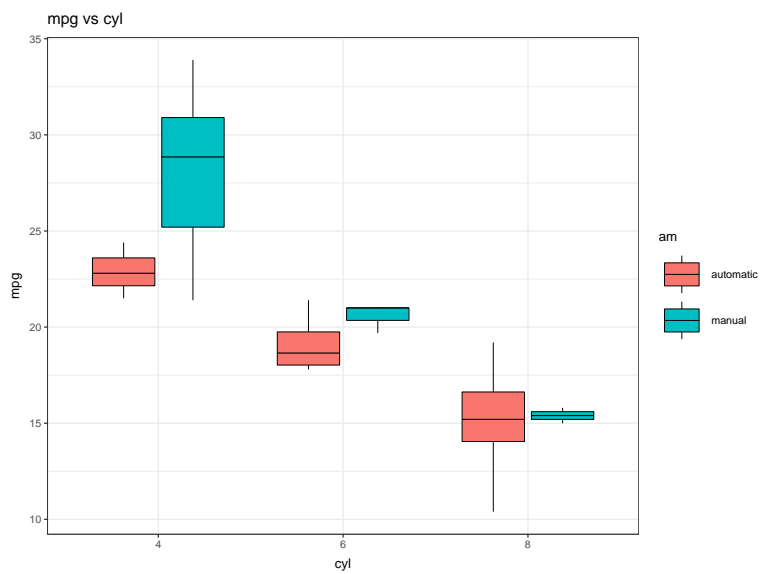

Figure 4: mpg vs cyl
- secondly, with respect to the number of cylinders, the cylinder 4 seems to have the highest mean in both two transmission type. See Figure 4.